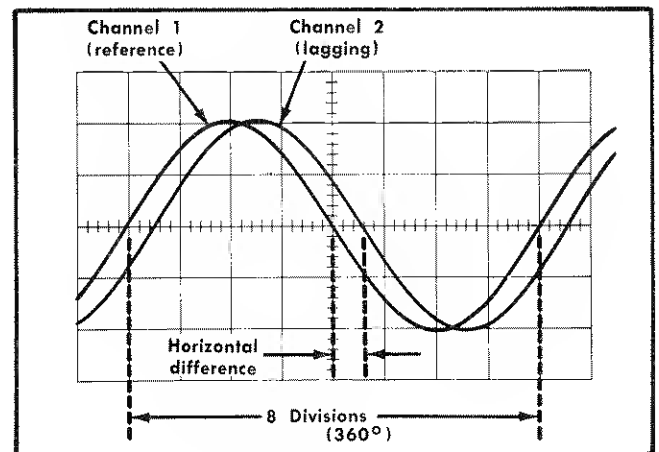
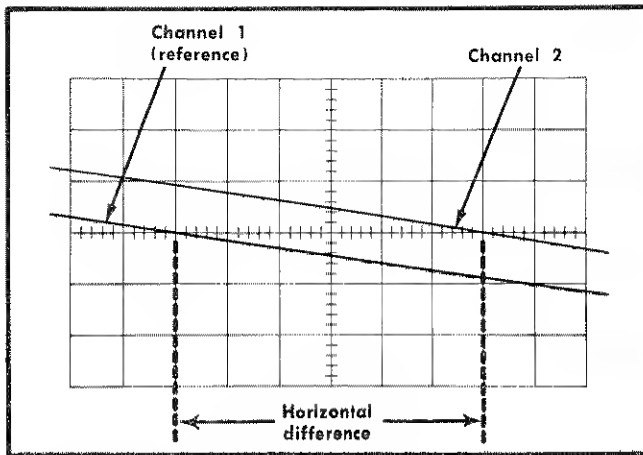

Fig. 2-24. Measuring phase difference.
Fig. 2-25. High resolution phase-difference measurement with increased sweep rate.
10. Turn the A VARIABLE control until one cycle of the reference signal (Channel 1) occupies exactly eight divisions horizontally (see Fig. 2-24). Each division of the graticule represents 45° of the cycle ($360^\circ \div 8 \text{ divisions} = 45^\circ/\text{division}$). The sweep rate can be stated in terms of degrees as 45°/division.
Example. Assume a horizontal difference of 0.6 divisions with a sweep rate of 45°/division as shown in Fig. 2-24.
Example. If the sweep rate were increased 10 times with the magnifier, the magnified sweep rate would be $45^\circ/\text{division} \div 10 = 4.5^\circ/\text{division}$. Fig. 2-25 shows the same signals as used in Fig. 2-24 but with the MAG switch set to $\times 10$. With a horizontal difference of six divisions, the phase difference is: